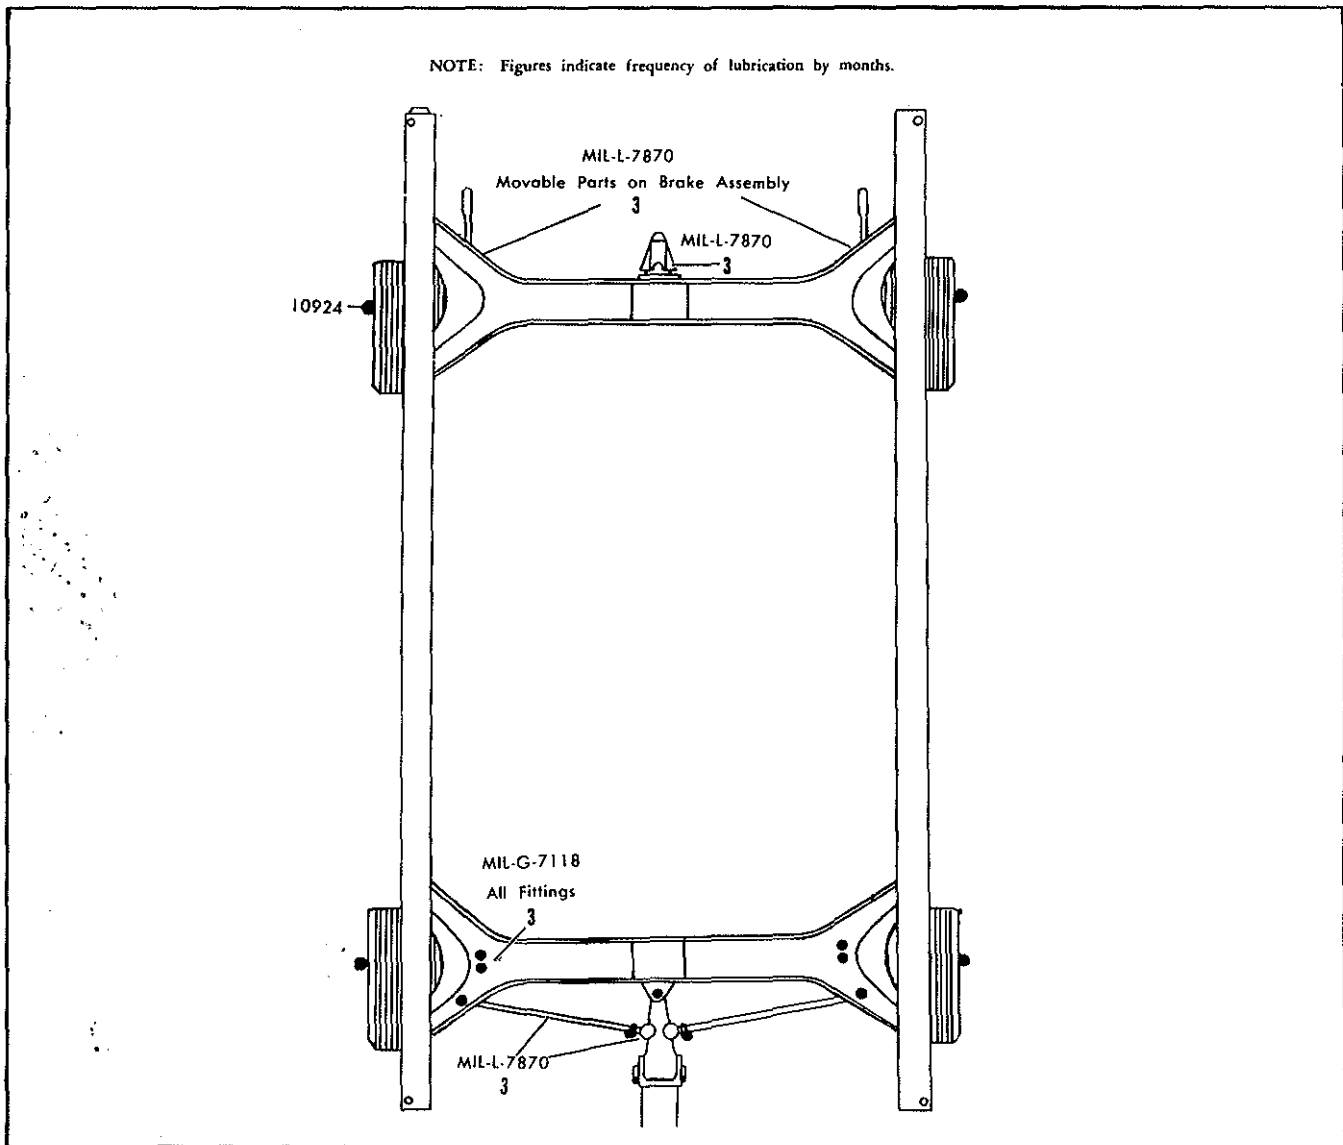

Figure 2-2. Lubrication Chart.
**2-11. PERIODIC LUBRICATION.** (See figure 2-2.)